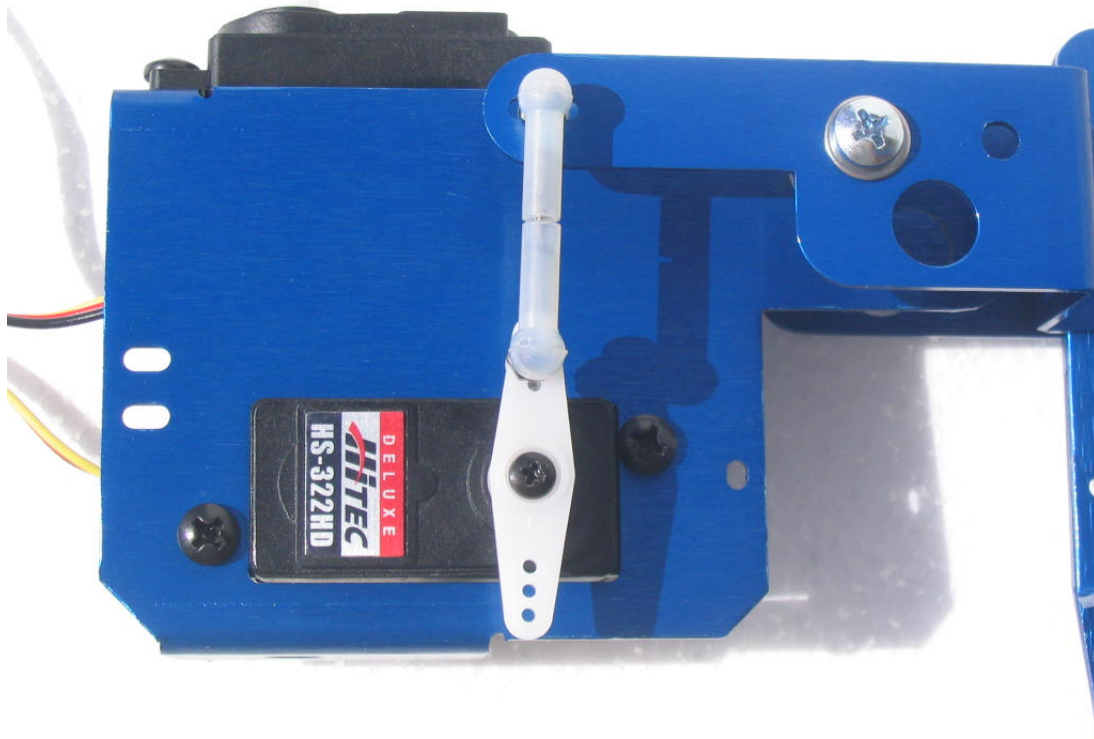

Figure 14
14. Install the dog bone assembly to the ball joints as shown in figure 14. Do not press on the center of the dog bone assembly when installing the dog bone assembly or the 2/26" threaded rod will bend. Simply press on the ends of the round, ball joint housing. Also, support the leg actuator with your fingers when installing the dog bone assembly or you could bend the leg actuator as well.